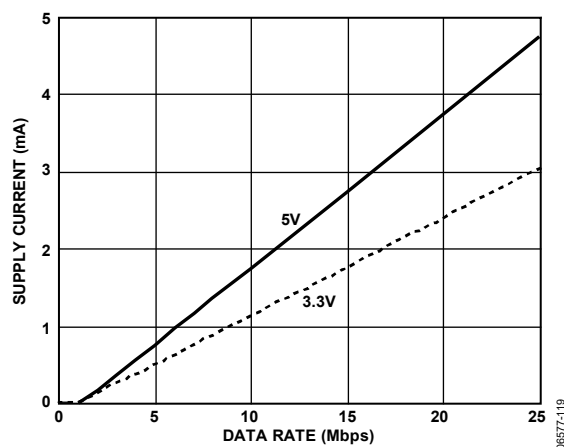
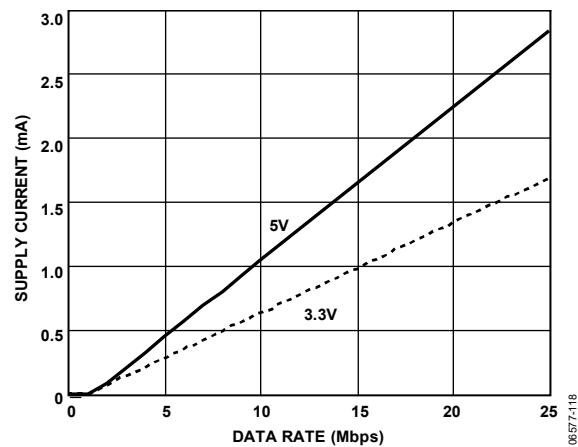

Figure 23. Typical  $I_{ISO(D)}$  Dynamic Supply Current per Input
Figure 24. Typical  $I_{ISO(D)}$  Dynamic Supply Current per Output (15 pF Output Load)
$I_{ISO (D)n}$  is the dynamic load current drawn from  $V_{ISO}$  by an input or output channel, as shown in Figure 23 and Figure 24.